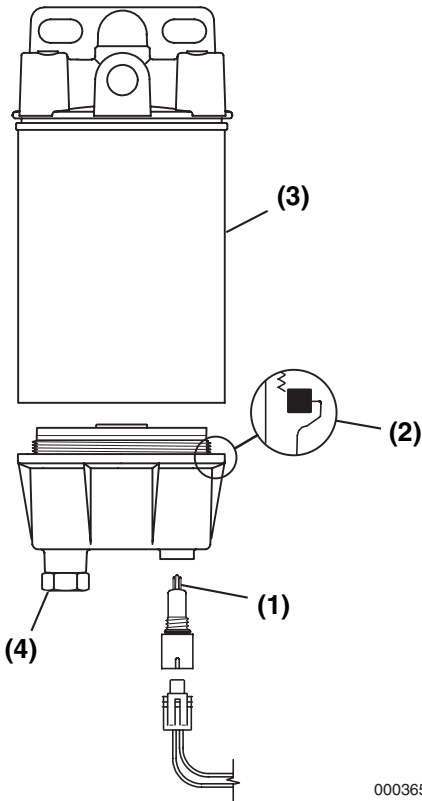

Figure 7
- Clean the filter bowl. Inspect the water sensor probe (**Figure 7, (1)**) for damage. Inspect the bowl seal (**Figure 7, (2)**).
- Lubricate the seal at the top of the new filter element and install (**Figure 7, (3)**).
- Ensure drain plug (**Figure 7, (4)**) is securely tightened.